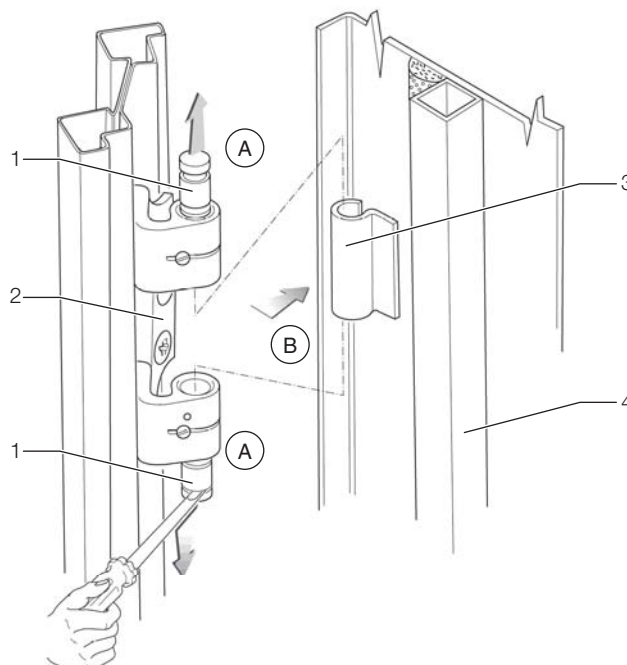

Fig. 17: Door hinge – dismantling
- Loosen the hinge bolts from the four door hinges by raising them with an appropriate tool (e.g. screwdriver). Pull the bolts out of the hinge bolt holding fixture up to the catch (see Fig. 17, Step A). Begin with the lowest door hinge.
- Remove the server enclosure door (see Fig. 17, Step B).